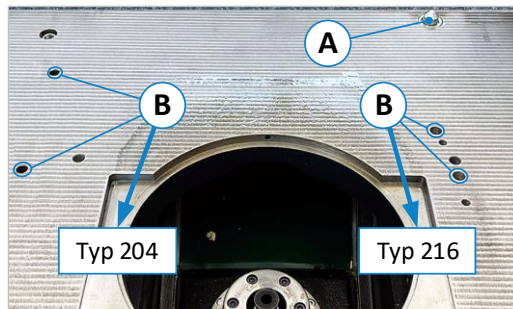

Figure 27: Locking bolts and detent holes
Placing and aligning the fence on the machine table is identical for both fence types (216 and optionally 204). However, the position of the centring pins (Z) is (seen from the front) on the right side of the fence for type 216 and on the left side for types 204 (see ⇨ Figure 27).